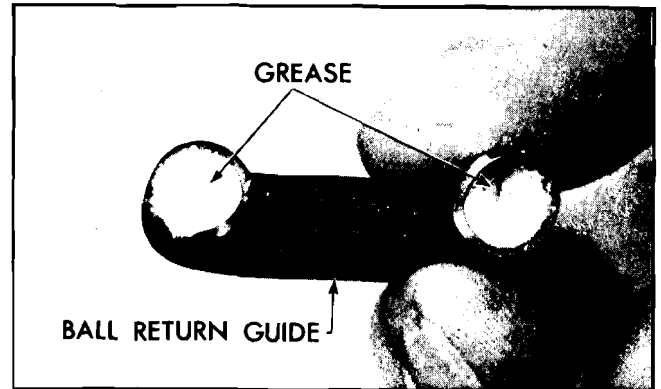

Fig. 9-74 Ball Return Guide
4. Fill one-half of ball return guide with remaining 7 balls. Place other guide over balls and plug each end with heavy grease to prevent balls from falling out when installing guides into rack-piston nut (Fig. 9-74).